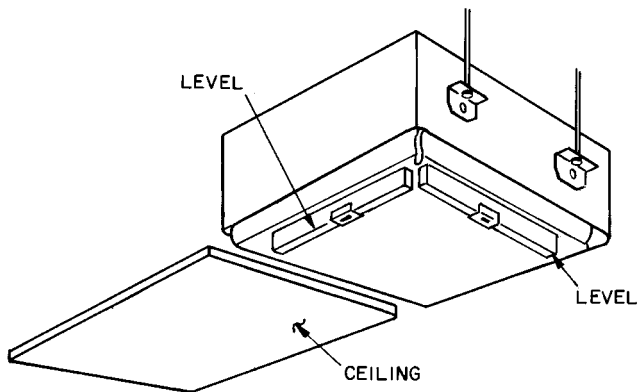

Fig. 7 — Level Unit
- b. Place a carpenter's level on the unit. Refer to Fig. 7. A maximum slope of $\frac{1}{8}$ in. toward the condensate drain is allowed.